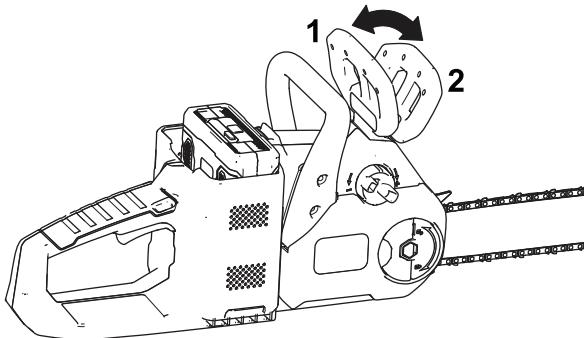

Figure 27
2. Engage the chain brake by moving the chain brake forward to the STOP position (Figure 27).
4. Disengage the chain brake by moving the chain brake rearward to the OPERATING position (**Figure 27**).
2. Unfold the wing-nut tab and loosen, but do not remove the wing nut on the cover (Figure 27).